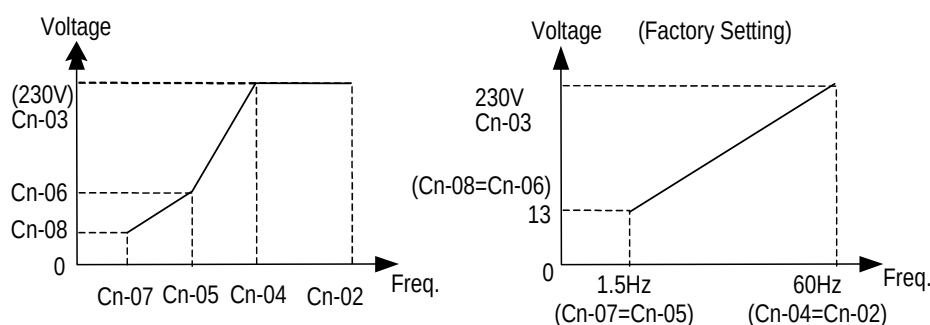

Figure 18 User-Defined V/F Curve
- Setting Cn-02~Cn-08 can be set by the user when Sn-02 has been set to "15". The user-defined V/F Curve can be specified through the settings of Cn-02~Cn-08 as shown in Figure 18. The factory setting is straight line for the V/F Curve. (Cn-05=Cn-07, Cn-06 is not used) as shown below (230V/60Hz case).